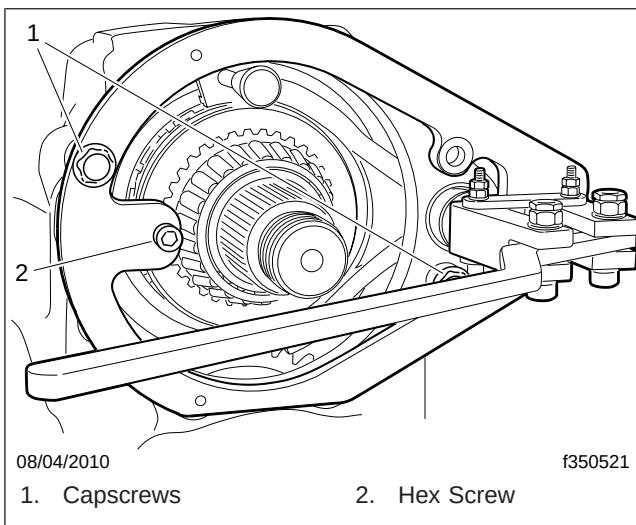

Fig. 10, Shift Shaft Piston Installer, Mounted
- 27.1 The shift shaft piston installer (see Table 1) is designed to install the piston without damaging it or the carrier housing. Use two bearing cage cap screws to mount it to the carrier housing. See Fig. 10.